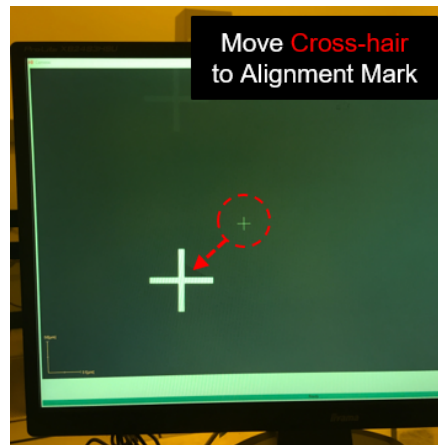

Figure 12: The front-to-back wafer alignment screen in the Heidelberg software. The cross-hairs should be aligned to existing alignment marks on the wafer.
- This size of the cross is optimized for the use of high resolution cameras located at the bottom of the stage through which we are able to see the mark in real-time, as seen in Figure 12.